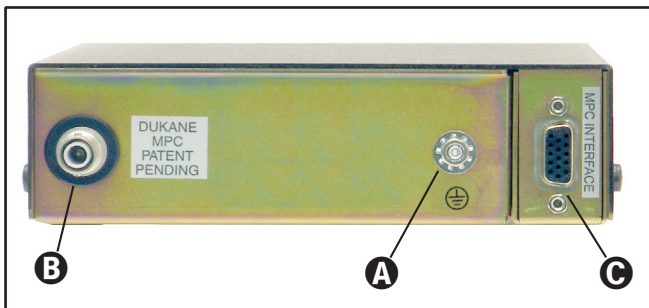

Figure 3-4 MPC Module Rear Connectors
Refer to Figure 3-4 below. Complete these connections.
1. Earth ground - Connect one end of a user-supplied 14-Gauge ground wire to the ground connection at the rear of the MPC - **A** in Figure 3-4. Connect the other end of the wire to an earth ground potential at the electrical box that supplies power to the equipment (or to the equipment enclosure into which your system is installed).
2. U/S (ultrasonic) cable (Dukane P/N 200-479-XX - Order the correct cable length for your installation.) - Connect one end of the cable to the left rear U/S connector of the MPC module- **B** in Figure 3-4. The other end of the cable connects to J1 of the ultrasonic generator.
3. MPC Interface cable (Dukane P/N 200-1408-XX - Order the correct cable length for your installation.) - Connect one end of the cable to the right rear MPC Interface connector- **C** in Figure 3-4. The other end of the cable connects to the MPC INTERFACE connector on the ultrasonic generator.